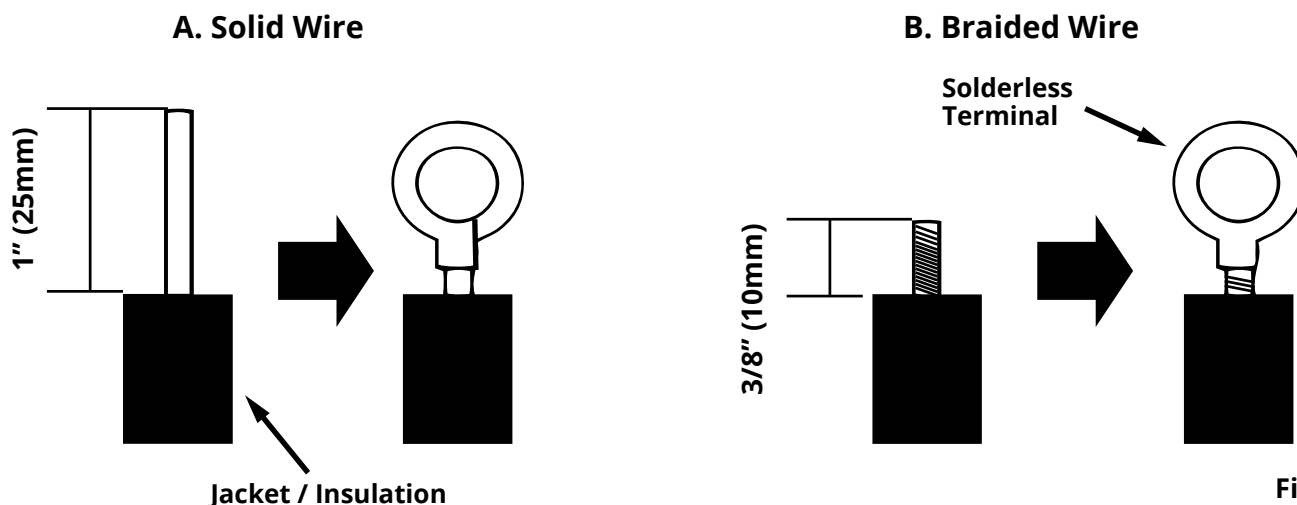
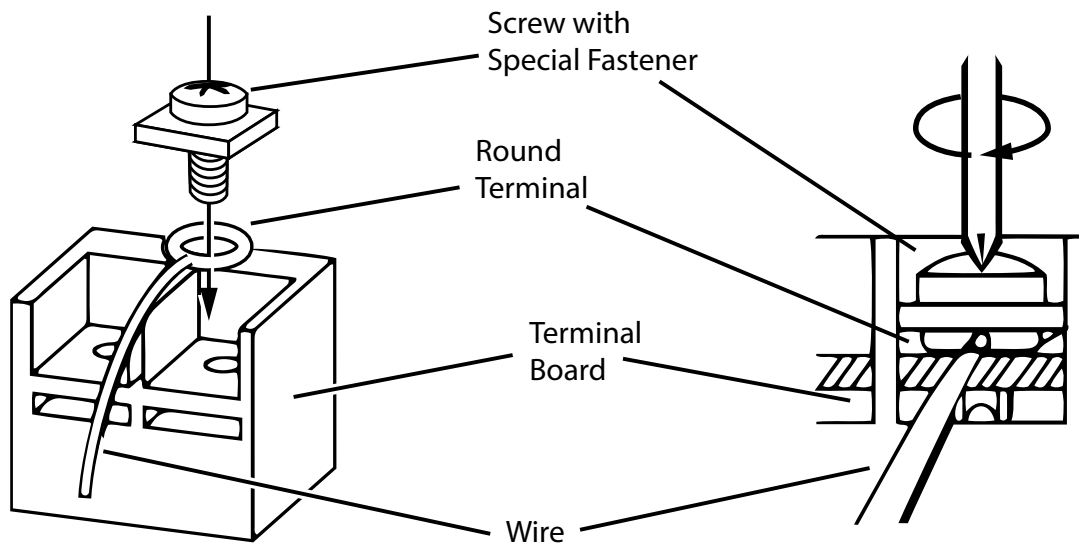

Fig. 2.26
Fig. 2.27
**For solid wires (Refer to Fig. 2.26 A):**
**For braided wires (Refer to Fig. 2.26 B & Fig. 2.27):**
4. Locate the round terminal conduit. Use a screwdriver to replace it and tighten up the terminal screw (as shown in Fig. 2.27).